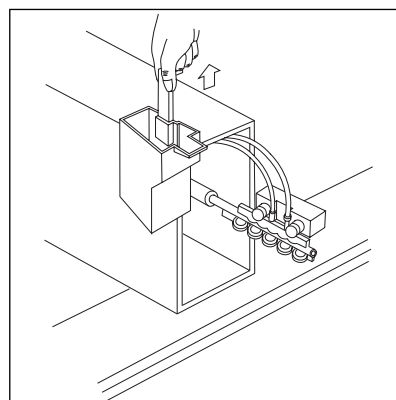

Figure 5.3
3. Lift up drip cup, being careful not to spill (Figure 5.3).